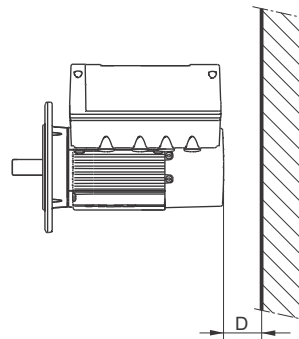

Fig. 1 Minimum distance (D) from the motor to a wall or other fixed objects
In order to ensure sufficient cooling of the motor, the distance (D) between the end of the fan cover and a wall or other fixed objects must always be at least 0.16" (50 mm), irrespective of motor size. See fig. 1.